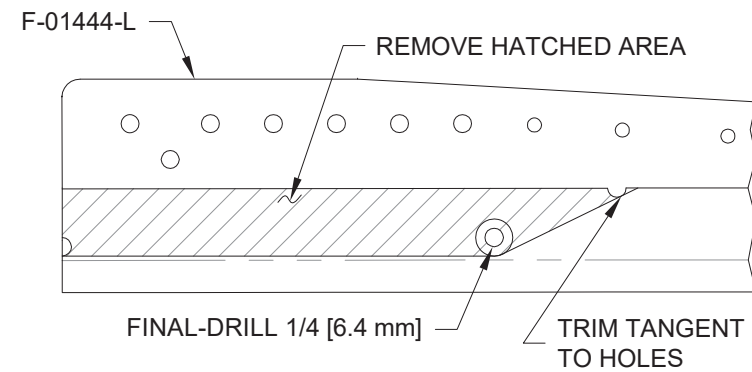

FIGURE 1: TRIM F-01444-L LONGERON
Step 1: Final-Drill and trim the F-01444-L Longeron as shown in Figure 1 and Figure 3.